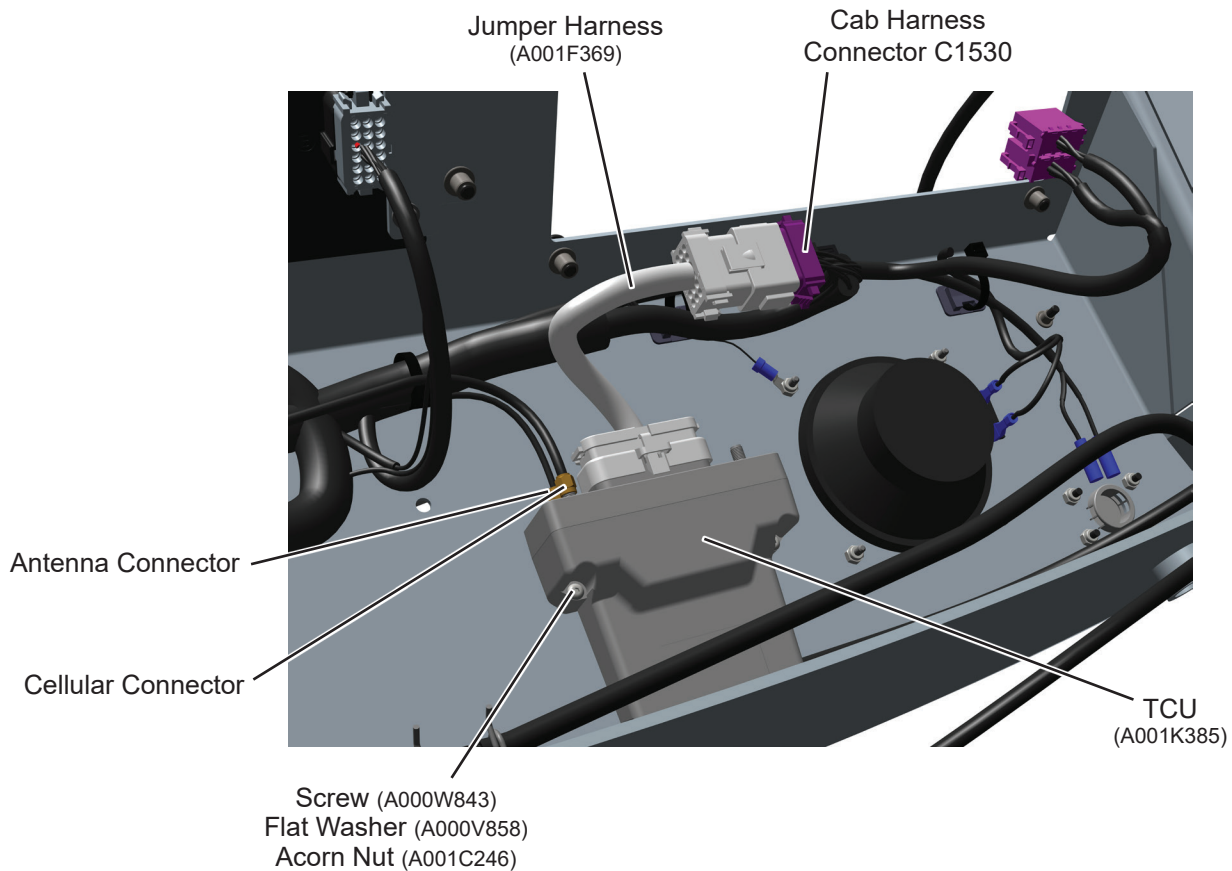

Figure 4
9. Place T27 TCU module (A001K385) in overhead console through radio panel opening. See Figure 4.
11. Secure TCU module to overhead console through holes drilled in Step 8 with screws (A000W843), washers (A000V858), and acorn nuts (A001C246). See Figure 4. Install screws from top and washers and acorn nuts from the bottom, acorn nuts to be visible from driver's seat. Final tighten hardware to 17 in lbs.
12. Connect GPS antenna and cellular connectors disconnected in Step 5 to TCU module. See Figure 4.
13. Connect jumper harness (A001F369) to TCU module. See Figure 4.
14. Connect cab harness connector C1530 disconnected in Step 5 to jumper harness. See Figure 4.